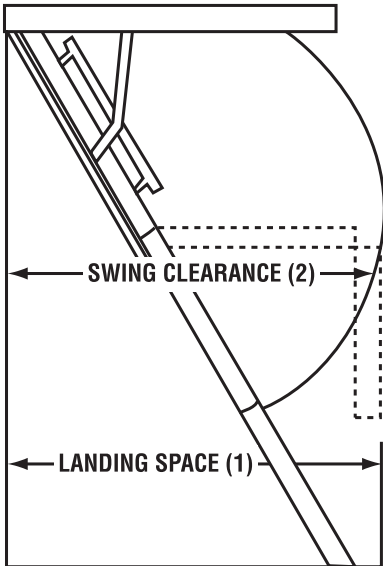

FIGURE 1 - WOOD STAIRWAYS
- B. Allow sufficient area for a safe landing space at the bottom of the stairway. Be sure there is enough clearance for the swing of the stair as it is being unfolded to its full length (see FIGURE 1 for "landing space" and "swing clearance"; match the ceiling heights shown on the packing carton with the same ceiling height in TABLE A to determine proper landing space and swing clearance requirements).